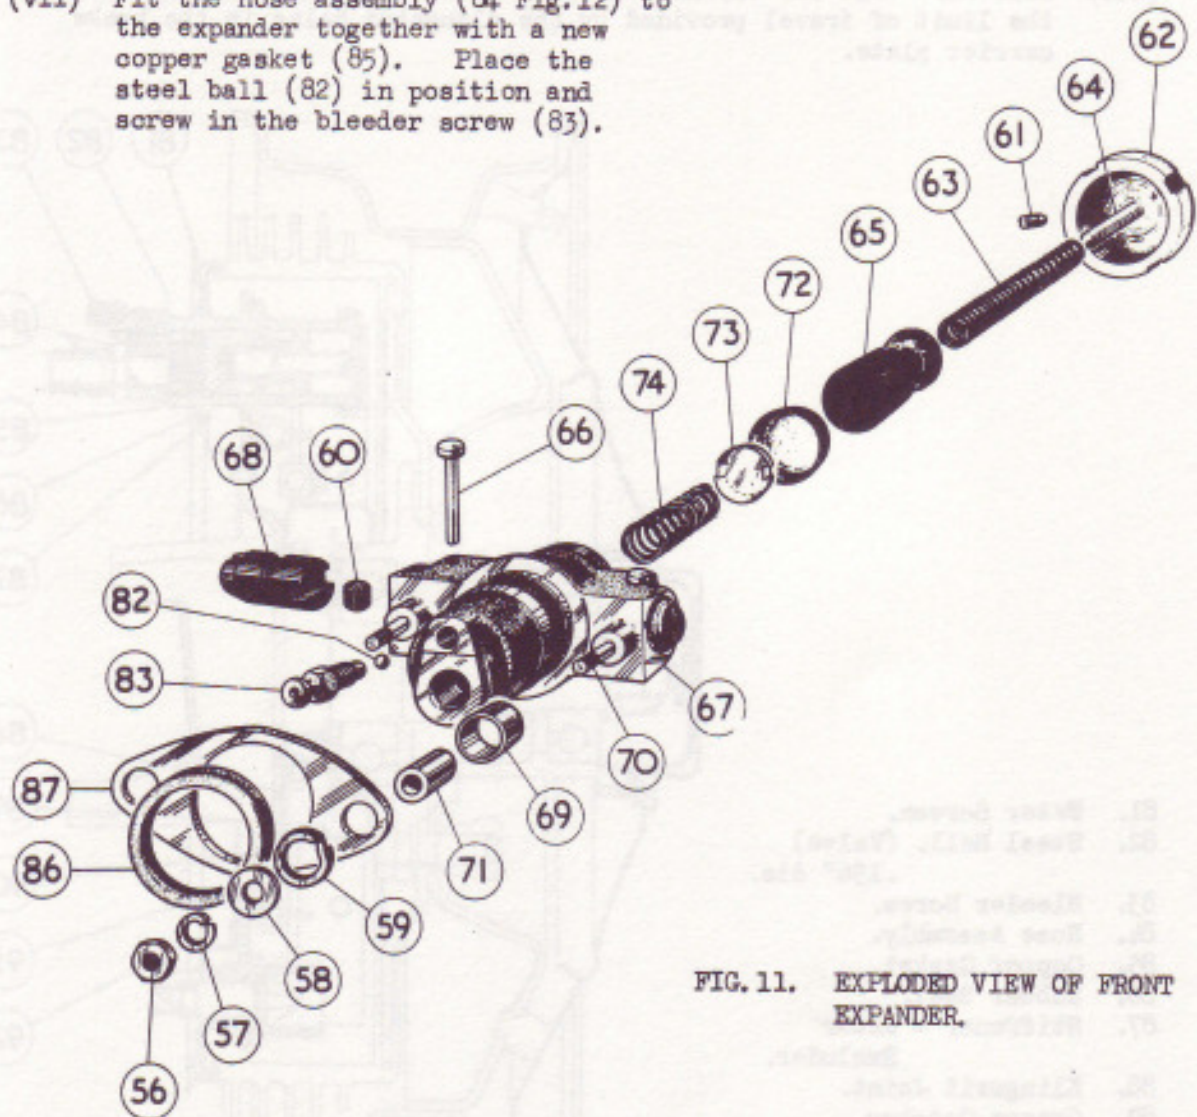

FIG. 11. EXPLODED VIEW OF FRONT EXPANDER.
- (ii) Place the spring (74 Fig.11) complete with the end cap (73) into the cylinder of the expander, entering the spring first. Enter the rubber cup (72) with the lip inwards into the cylinder for a depth of about half an inch, followed by the expander cone (65) with the hole therein outermost.
- (iv) Place the roller (60) in the deep end of the inclined slot of the plunger (68) and slide them together into one of the plunger bores, with the retaining pin slot in the plunger in line with the corresponding hole in the housing.
- (v) Insert retaining pin (66) from the top of the housing as shown in Fig.11, and then open the split end sufficiently to secure. Fit the other plunger, roller and retaining pin in a similar manner.
- (vi) Place the spring (63) into the hole in the expander cone, then entering the guide rod attached to the cap (62) into the spring, replace the cap and screw up. Lock the cap by fitting and tightening the grub screw (61).